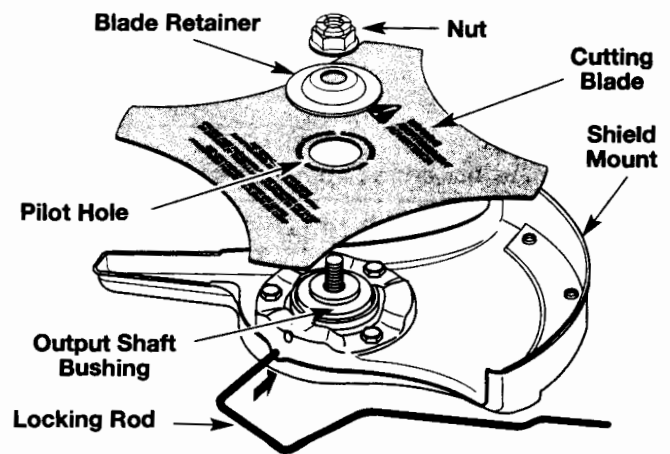

Fig. 11
4. Place the cutting blade on the output shaft bushing (Fig. 11).